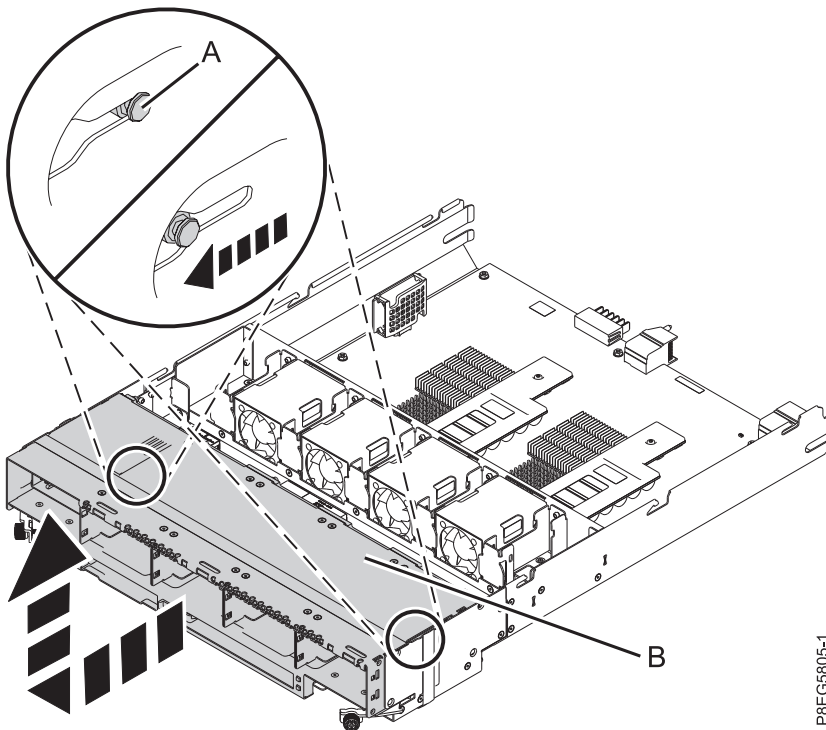

Figure 13. Removing the disk drive backplane
13. Grasp the disk drive backplane (B) with both hands and pull it toward you until pins (A) on the bottom side of the disk drive backplane, clear the RAID assembly slot. Then, lift the disk drive backplane to remove it, as shown in Figure 13.